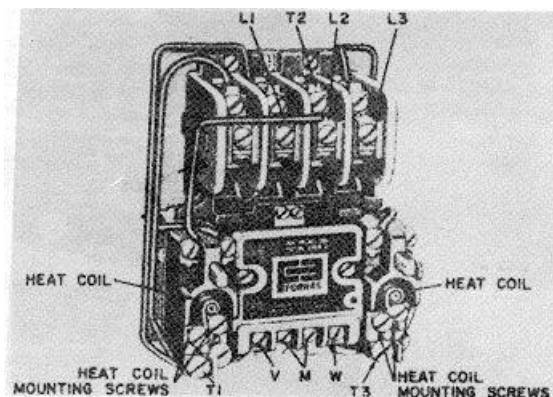

Figure 3. Magnetic Meter Starter
4. HEAT COIL SELECTION (See figure 3)